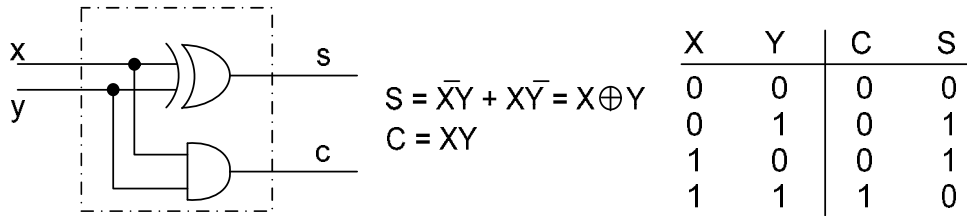
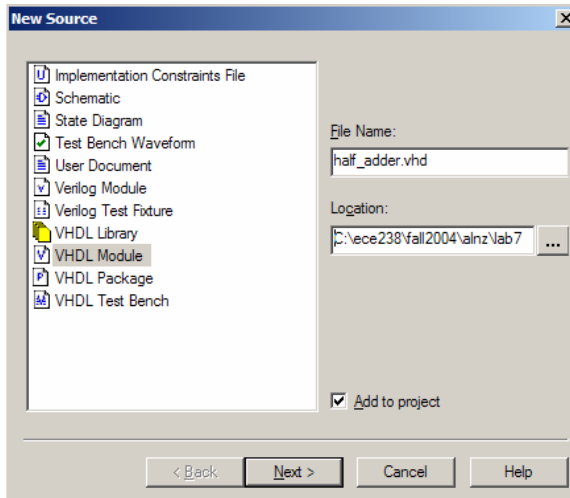
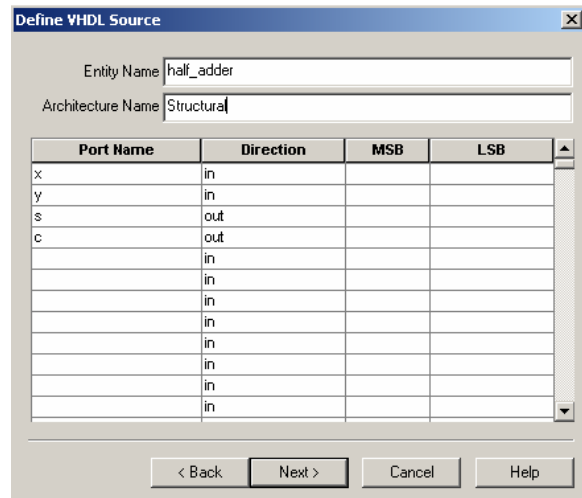
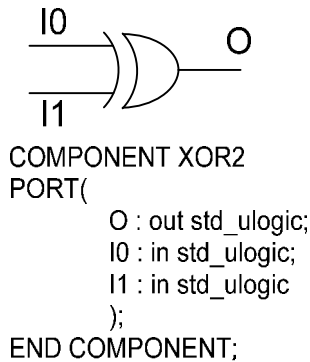

Figure 1; half adder logic diagram, equations and truth table
Figure 5.
Figure 6.
Figure 7; XOR gate and its component declaration.
A basic half adder logic diagram is shown in figure 1, including its equations and truth table. It is called a half adder because it does not include a “*carry in*” within its inputs. Note that the circuit is made of simple XOR and AND gates.
3. Creating a new source file; Go to **Project** → **New Source**, select **VHDL Module** and enter the name **“half\_adder”** as shown in figure 5. You will get a window as shown in figure 6, to define the VHDL source; fill out the architecture name as **structural** and declare the inputs and outputs of the half adder circuit following the logic diagram in figure 1. Click **Next** → **Finish**. The result will be a new source file where the skeleton is ready for you to fill out with the description of the circuit.
4. Declaring components; Following logic diagram in figure 1, you will need two kind of gates, a XOR gate and an AND gate. Figure 7 shows each gate and its component declaration. Remember that a component declaration goes between **“architecture structural of half\_adder is”** line and the **“begin”** line.
5. Connecting components; Component instantiation (section where you describe the connections between components) goes between the lines **“begin”** and **“end structural”** in the VHDL description of the system. Follow the logic diagram in figure 1 to describe the connections between the gates and inputs/outputs of the half adder. Remember from last